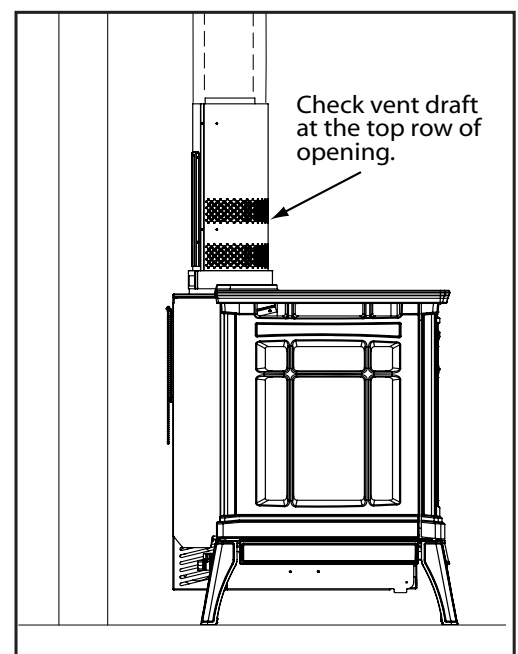

Figure 47: Draft test place.
4. After a minimum of 10 minutes operation, test the chimney draft with a smoke match at the top row of the pattern to confirm that there is adequate draft or 'pull' at the openings around the body of the Draffhood Adaptor, as shown in Figure 47.